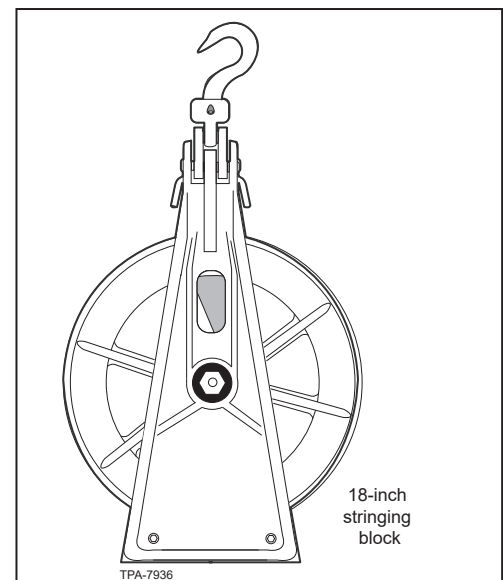

Figure 30 One sleeve cable block
7. Heavy corners can cause extreme bending on fiber optic cable. At such locations (greater than 20 degrees), use a cable roller of the appropriate diameter. (Figure 30).